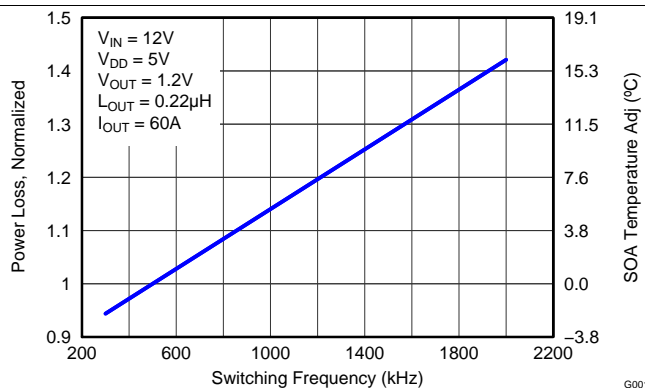

Figure 5. Normalized Power Loss vs Frequency
- Normalized Power Loss for switching frequency ≈ 1.08 (Figure 5)
- SOA adjustment for switching frequency $\approx 3.2^{\circ}\text{C}$ (Figure 5)